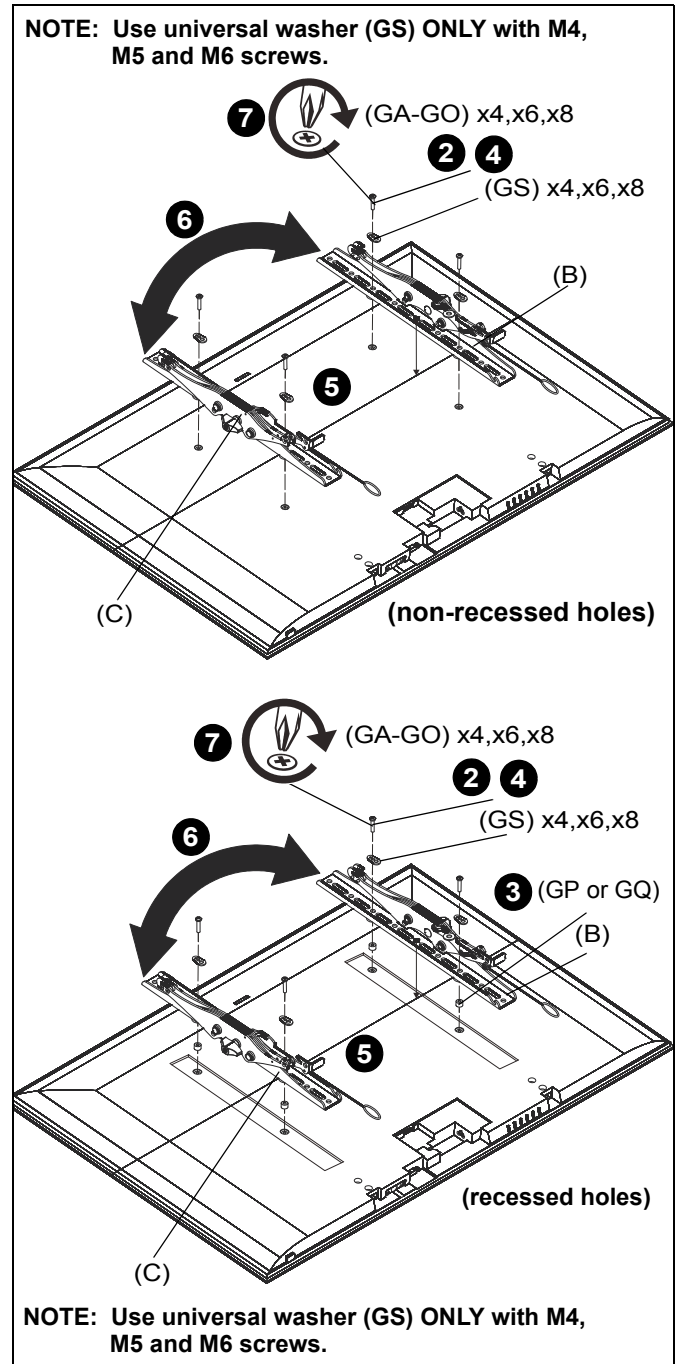

Figure 8
2. Select screw *diameter* by examining hardware (GA-GO) (8mm, 6mm, 5mm, or 4mm) and comparing with mounting holes on display. (See Figure 8)
3. Select spacers: (See Figure 8)
4. Select screw *length*: (See Figure 8)
5. Place brackets (B and C) on display, ensuring: (See Figure 8)
7. Using Phillips screwdriver, carefully install selected screws through universal washers (GS, if required), brackets (B and C), and spacers (GP or GQ, if required), into display. (See Figure 8)